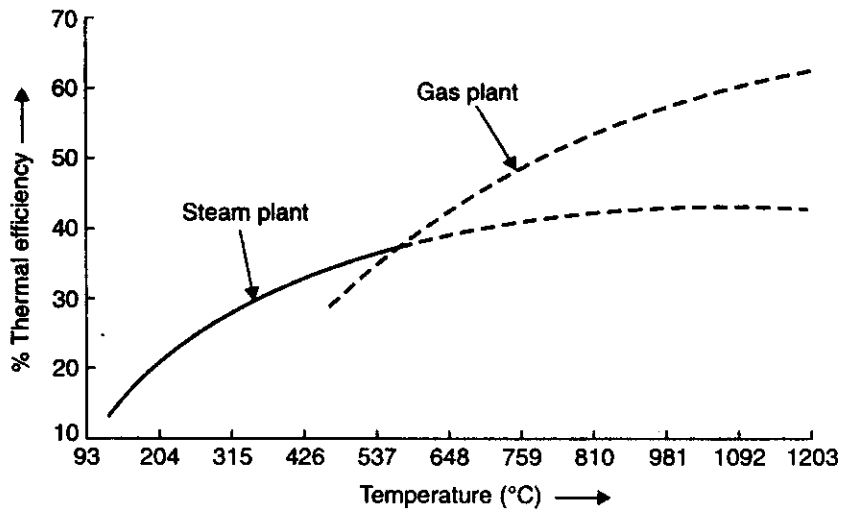

Fig. 5.26. Comparison between steam and closed cycle gas turbine plant.
- Fig. 5.26 shows the comparison of a steam and closed cycle gas plant.